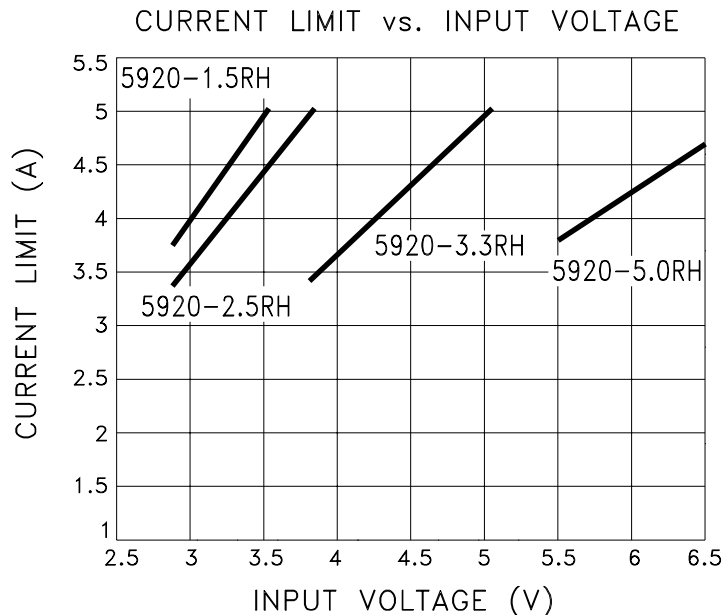

FIGURE 1
- ⑦ Output current limit is dependent upon the values of V_{IN} and V_{OUT}. See Figure 1 and typical performance curves.
- ⑧ Continuous operation at or above absolute maximum ratings may adversely effect the device performance and/or life cycle.
- ⑨ V_{IN} shall be as specified or V_{IN} min., whichever is greater.
- ⑩ Not applicable to versions where V_{IN} = V_{IN} Min.
- ⑪ Consult factory for post radiation limits.
The MSK 5920RH current limit function is directly affected by the input and output voltages. Figure 1 illustrates the relationship between V_{IN} and I_{CL} for various output voltages. It is very important for the user to consult the SOA curve when using input voltages which result in current limit conditions beyond 4.5 Amps. When using input voltages which result in current limit above 4.5 Amps, the user must maintain output current within the SOA curve to avoid damage to the device. Note that 5 Amp maximum is due to current carrying capability of the internal wirebonds.